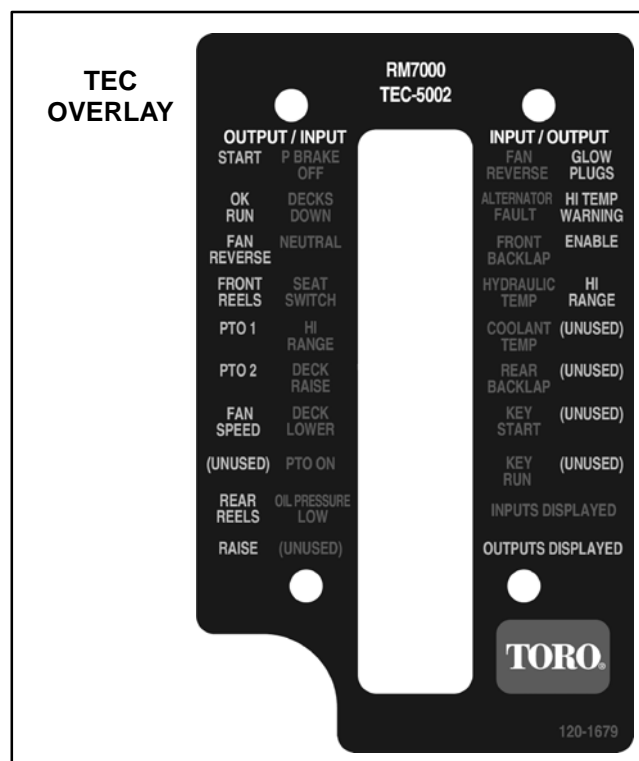

Figure 9
3. Connect the Diagnostic Display connector to the wire harness connector. Make sure correct overlay decal is positioned on the Diagnostic Display (Fig. 9).